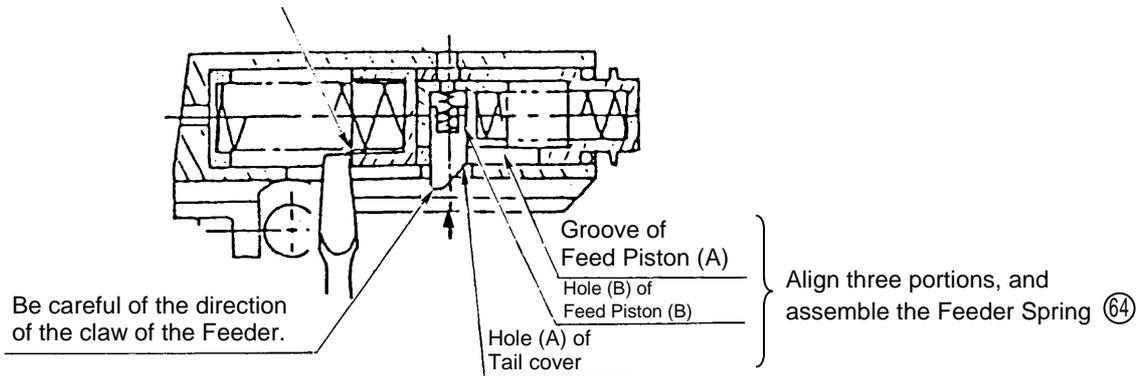

Fig. 23 Reassembly of Feeder and Related Parts
- To reassemble the Feeder (65) and the Feeder Spring (64) after pushing Feed Piston (A) (58), Feed Piston (B) (56) and their related parts into the feed piston chamber of the Tail Cover (34), carry out their assembly by pushing them into Hole (B) of Feed Piston (B) through Hole (A) of the Tail Cover (refer to Fig. 23). At this time, be very careful to ensure that the claw portion of the Feeder is mounted in the proper direction.
- On completion of assembly, push the Feeder (65) with a finger and confirm that it returns smoothly to its original position.